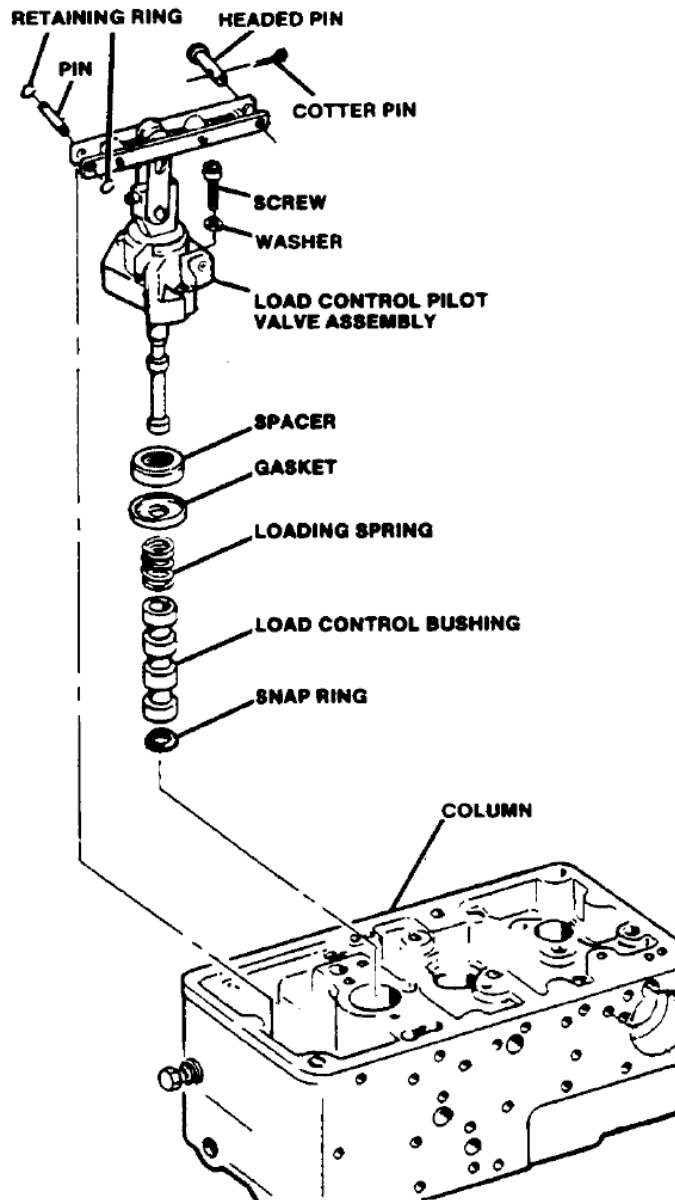

Figure 5-51. Load Control Bushing
- a. Install snap ring in load control bushing (Figure 5-51).